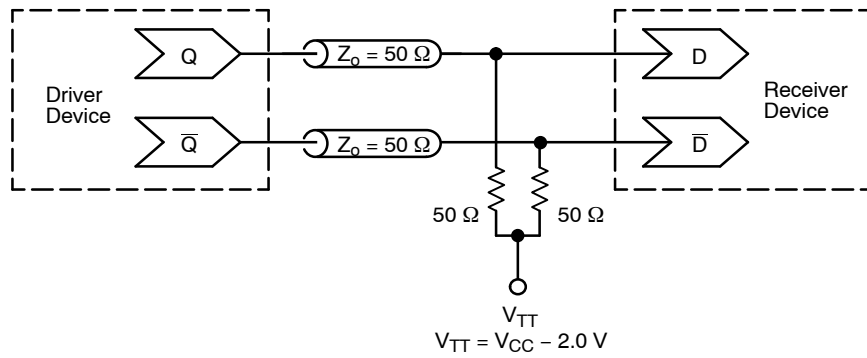
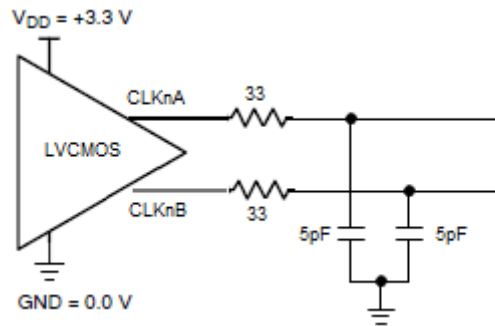

Figure 9. Typical Termination for LVPECL Output Driver and Device Evaluation (See Application Note AND8020/D – Termination of ECL Logic Devices.)
Figure 11. Typical LVC MOS Output Test Setup for Evaluation
13. Measured by using a 25 MHz crystal as clock source. All LVPECL outputs are loaded with an external RL = 50 Ω to VDDO – 2 V (Figure 9); LVCMOS outputs loaded with RS = 33 Ω, CL = 5 pF, 5" 50 Ω trace, (Figure 11).